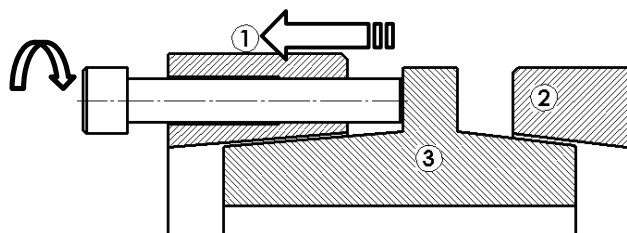

Fig. 5
- 3.** Once the back-ring has come loose from the centre-ring, you may now transfer as many cap-screws as possible into the tapped holes of the FRONT-RING (Part 1 in Fig. 5).